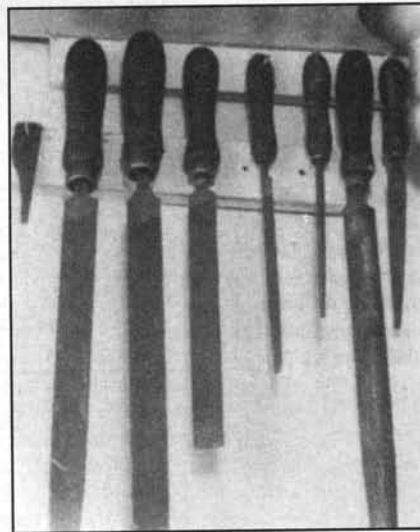

Fig. 4. When not in use files should be stored on a rack and kept free of rust.
(4) Files are expensive and pay for looking after. If they are thrown in a drawer with other tools there is a danger that damage to the teeth will occur. Hang the files on a rack. Holes drilled in the handles allow them to be stored safely as illustrated in Fig 4. Rust will damage teeth and if a file is not likely to be used for some time it should be oiled but the oil must be removed before the file is used again. Files should be cleaned regularly with a file card. Chalk rubbed into the file will minimise the tendency to clogging, especially when working on soft metals. Particles which cannot be removed by the file card can often be pushed out by running a